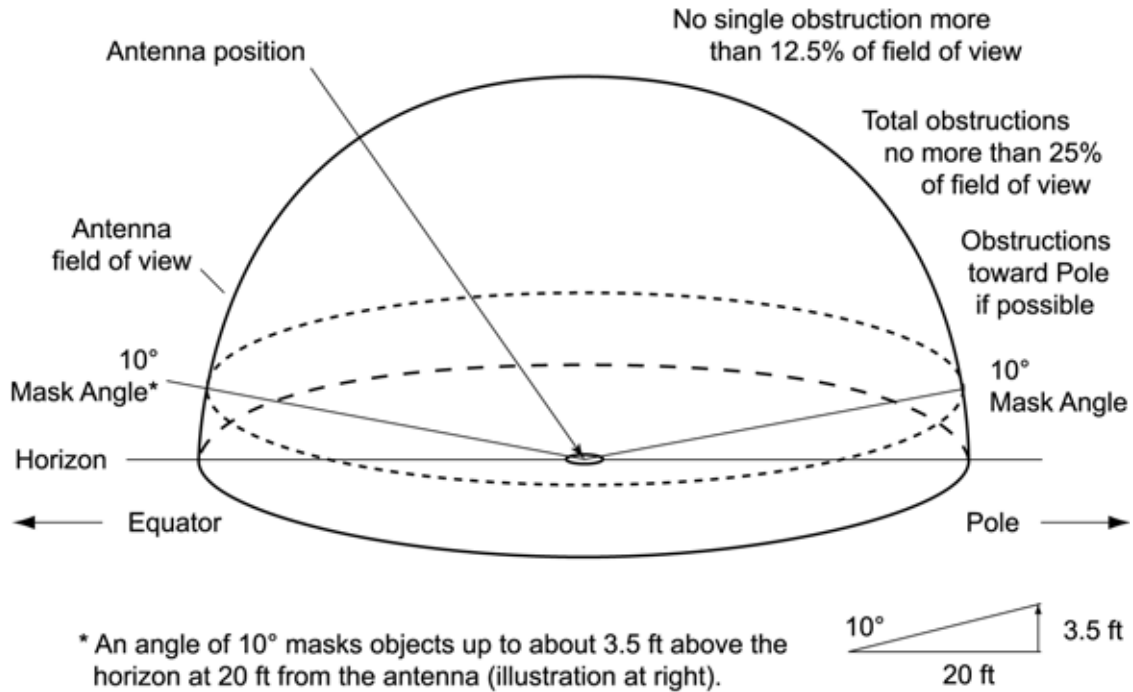

Figure 5-1. Locating the GPS Antenna
Use Figure 5-1 as a guide to locating the antenna.
- In general, do not allow obstructions that obscure the horizon (as viewed from the antenna) by more than 10 degrees, as shown in Figure 5-1.